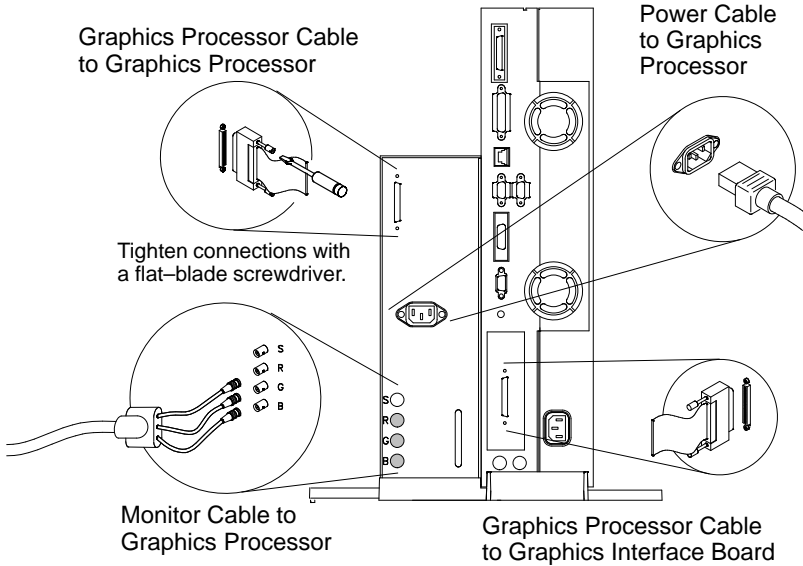

Figure 1-5. CRX-48Z Graphics Connections
- Graphics interface card (CRX-48Z graphics) — This device is connected by a cable to an external graphics processor, which in turn is connected to a video monitor, as shown in Figure 1-5.
Figure 1-5 shows the locations of the CRX-48Z graphics connections on the system unit's rear panel and on the rear panel of the external graphics processor.